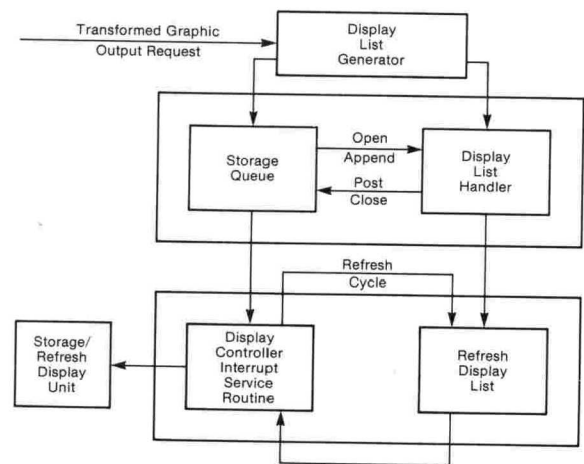

Fig. 3. Display controller driver. The display controller driver allows distinct graphic entities to be manipulated independently of one another.
**Display Control Driver (DCD).** The DCD (Figure 3) consists of three major modules: the Display List Generator which is responsible for taking transformed graphic output requests and generating display lists displayed as stored output or passed to the second module; the Display List Handler which manages the insertion, deletion, and modification of the refreshed